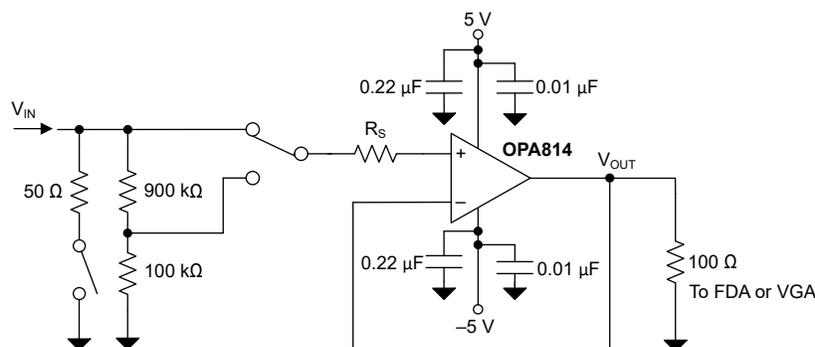

図 8-4. High-Input-Impedance, 180-MHz, Digitizer Front-End Amplifier
- Optimizing Overshoot:** The OPA814 features an internal slew-boost circuit to deliver fast rise-time in applications that require high slew rates, such as when configured as a transimpedance amplifier. For applications where overshoot must be limited, limit the input slew rates by introducing a series resistance (R_S); see also Figure 8-4. Resistor R_S forms a low-pass filter with an input capacitance of approximately 2.5 pF at the noninverting pin of the OPA814, thus limiting the input slew rate to the amplifier. Figure 8-5 shows how limiting the input slew rate to the amplifier results in good overshoot performance. Figure 8-6 shows how this configuration achieves a small-signal and large-signal bandwidth of 180 MHz.